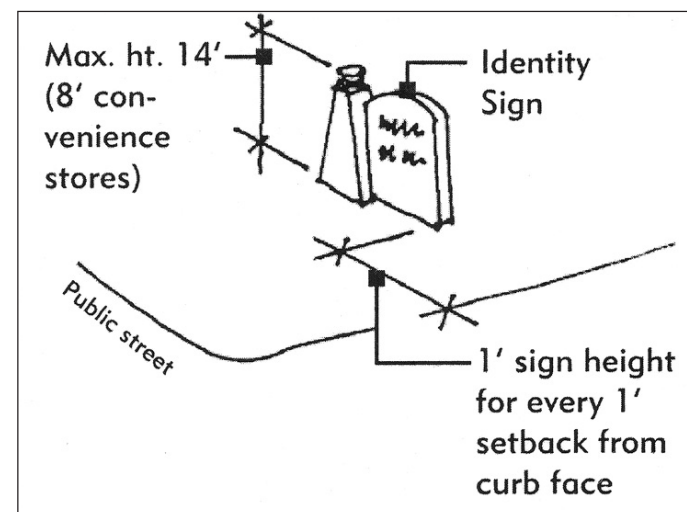

fig. 8a Maximum Sign Height
8.3.1 Eight (8) feet in height for the first eight (8) feet of setback from face of curb or edge of pavement then one (1) foot of height for each foot of setback thereafter up to a maximum height of fourteen (14) feet (fig. 8a).